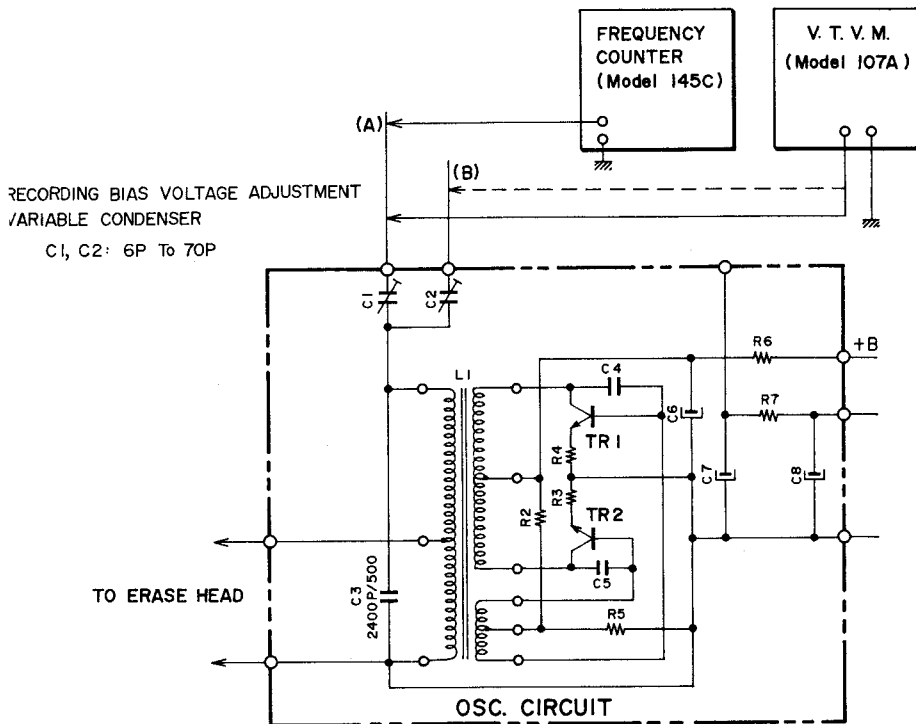

Fig. 14
Connect a Frequency Counter (Model 145C) to point (A) as shown in Fig. 14 and take a Frequency Counter reading. If the frequency is 62.5 ± 2.5 kHz, the recording bias frequency is correct. In case the Frequency Counter indication is incorrect, replace condenser C3 (2400PF/100V) or the Oscillation Circuit to obtain proper Oscillation Frequency.
2. RECORDING BIAS VOLTAGE ADJUSTMENTS (See Figs. 14, 15)
Connect a V.T.V.M. (Model 107A) to points (A) and (B) as shown in Fig. 14 and take a V.T.V.M. reading. Ideal recording bias voltage is from 10 to 22V AC. Recording bias voltage is adjusted with variable condensers C1 and C2.